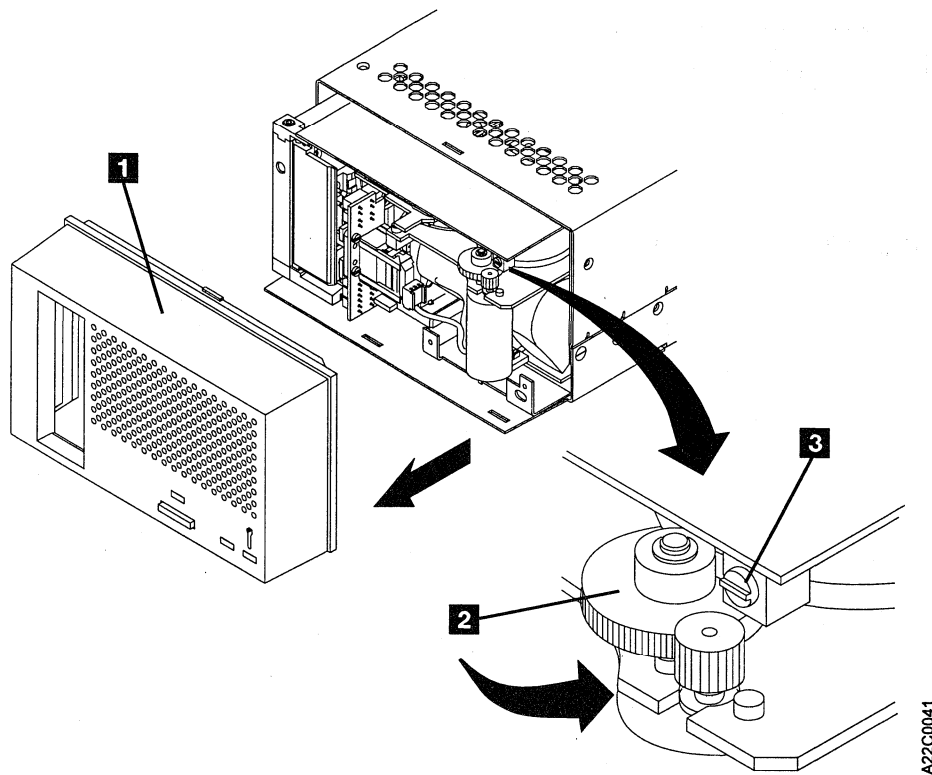

Figure 22. Positioning the Drive Loader for Shipping
- b. See Figure 22. Remove the drive cover **1** from the drive by pressing the top center of the drive cover and pulling it free.